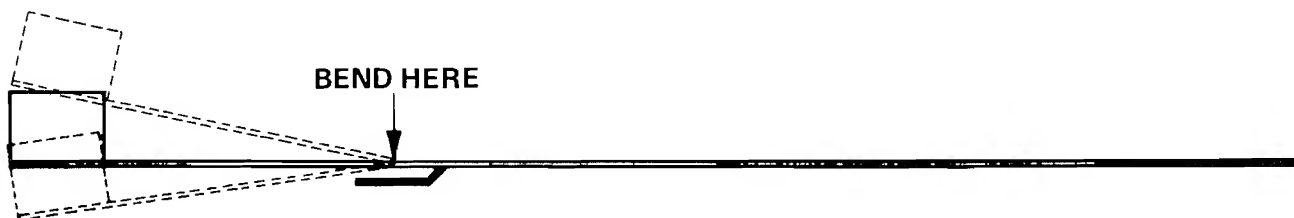

Figure 4-6. RHODES Damper Arm — Alignment Adjustment
- b. Alignment. With Tension thus established, proper Damper coordination is achieved by bending the forward portion of the Damper Arm up or down (Figure 4-6).